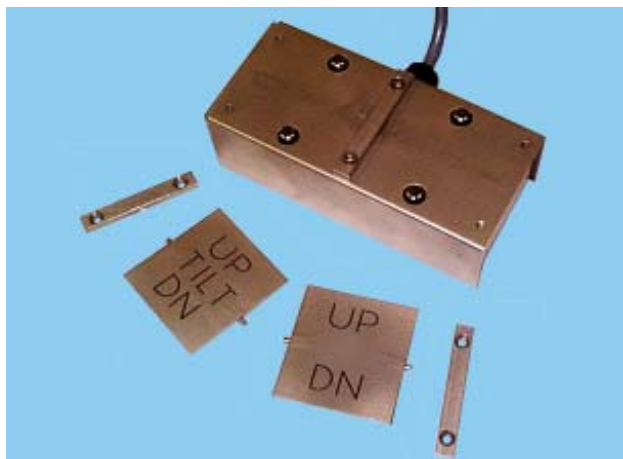

Figure 18. End Support Bars and Pedals Removed from Controller
3. Pull each pedal slightly outward so that its pivot clears the center support bar, and remove both pedals from the foot controller (Figure 18).